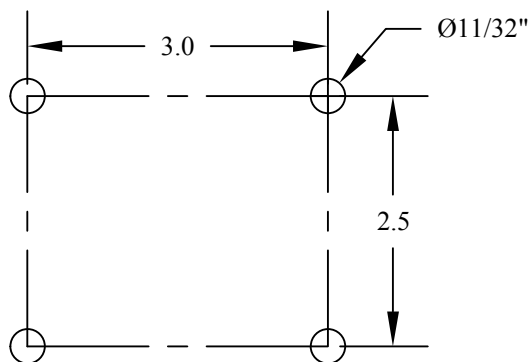

Figure 3: Power Socket Mounting Bracket Hole Dimensions.
2. **Drill** four 11/32" holes for the power socket mounting bracket using the holes in the bracket as a guide (Figure 3).